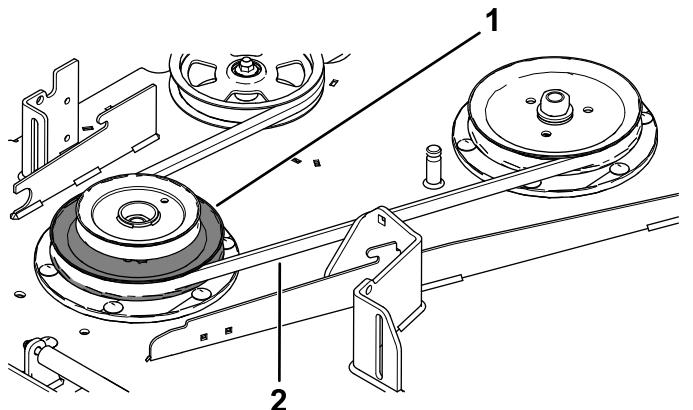

Figure 25
11. Install the mower belt around the lower pulley of the double pulley (Figure 25).